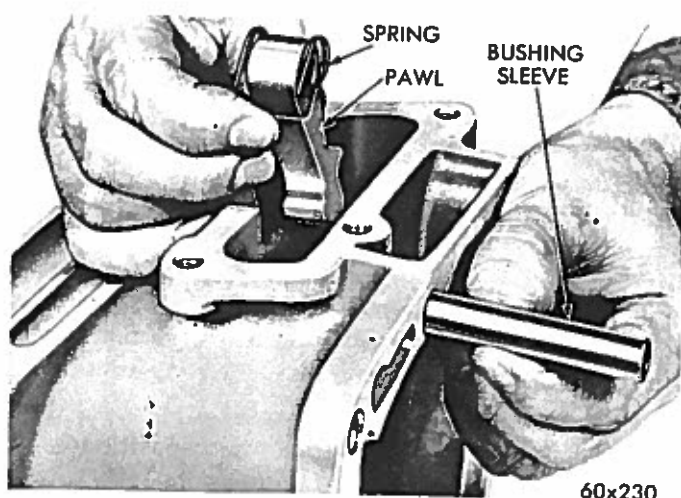

Fig. 38—Removing or Installing Parking Pawl
- (6) Slide bushing sleeve out of housing to remove the parking pawl and spring (Fig. 38).
- (1) Position the parking pawl and spring in the housing and insert the bushing sleeve (Fig. 38). Make sure the square lug on the pawl is toward the sprag and the spring is positioned so as to lift the pawl away from the sprag.